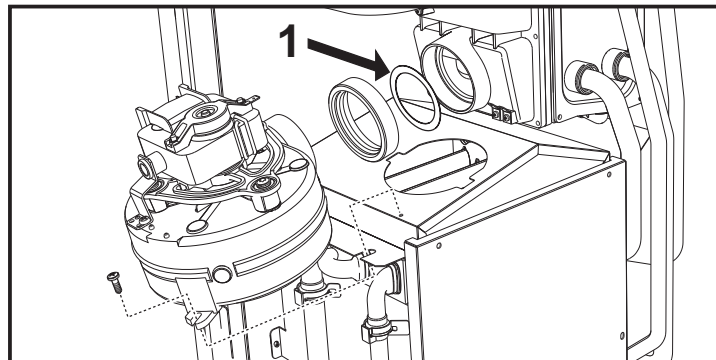

fig. 10
Before inserting the fume exhaust pipe, check the presence of the right baffle (when it is to be used) and that it is correctly positioned. The boilers are fitted standard with the smallest diameter baffle. To replace the baffle (ref. 1 - fig. 10), proceed as indicated in fig. 10.